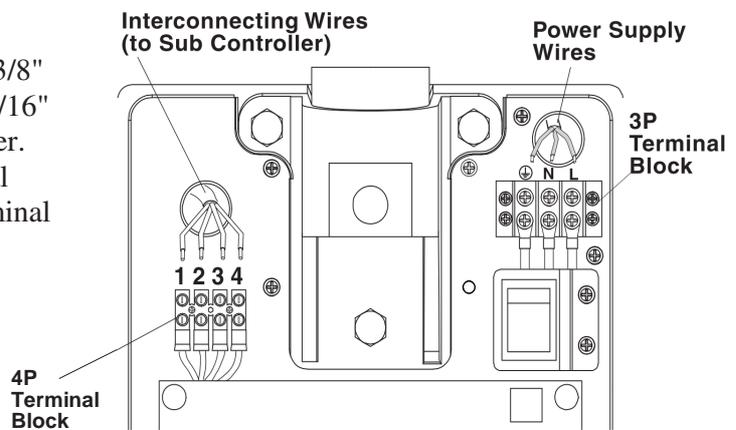

Fig.3-4 Wires Connection in Main Contoller
3. Cut the wires to workable length and strip 3/8" of insulation for power supply wires and 3/16" for interconnecting wires for Sub Controller. Connect power supply wires to **3P** terminal block and interconnecting wires to **4P** terminal block. **(Fig.3-4)**